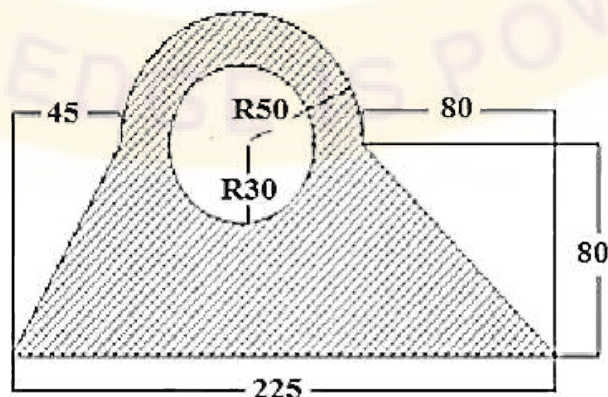

Figure 8
17. (a) Locate the centroid of the plane area shown in Figure 8. (10 marks)